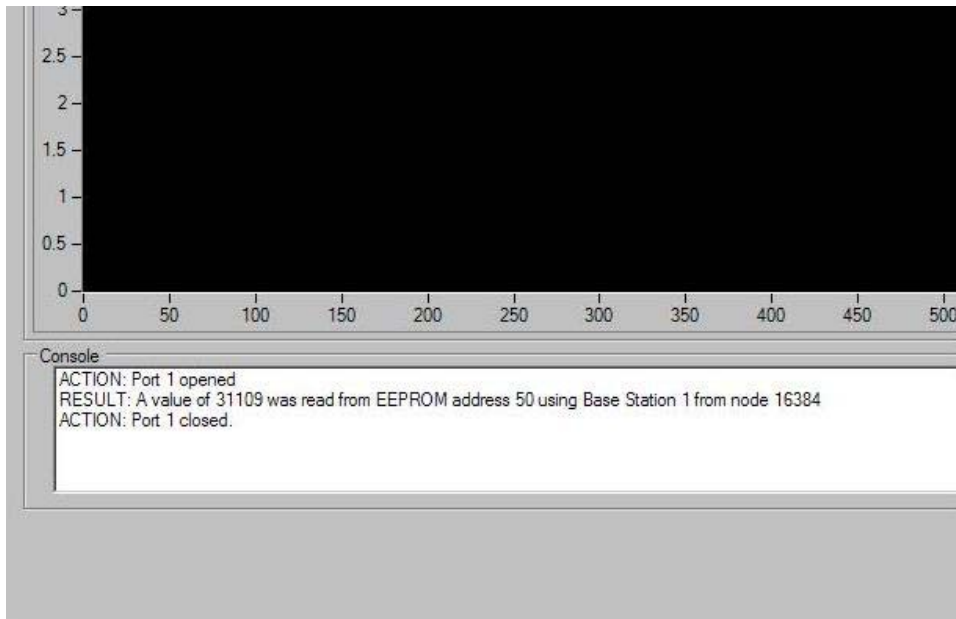

Figure 3
- Look for a successful read message in the Console frame indicating what the value in EEPROM 50 is and therefore the unique Node address. See Figure 3.